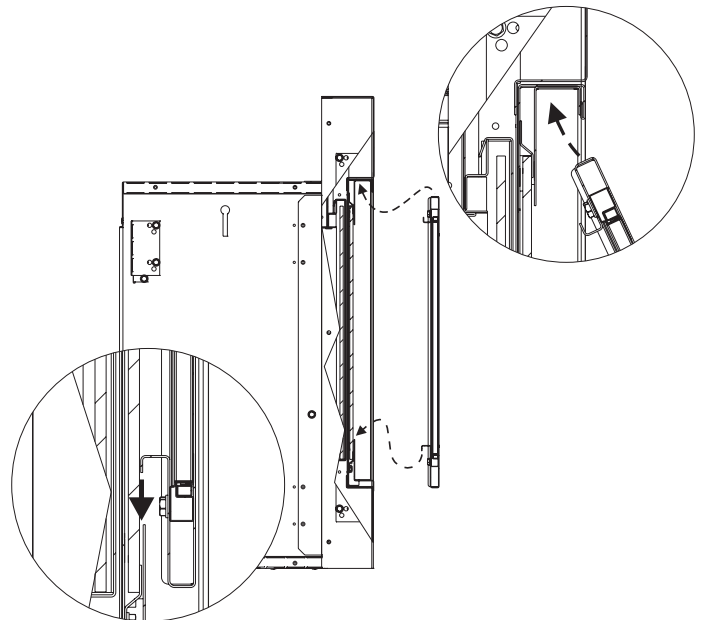

Figure 62
4. Insert the screen assembly into the top of the outer glass frame. Bring the bottom of the screen assembly against the face. Lower the screen assembly to catch the lip of the flange at the bottom of the glass. See Figure 62.